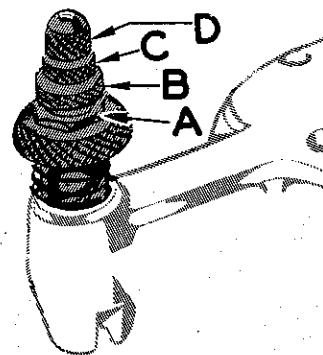

Fig. 2
Sufficient pressure to feed work uniformly should be maintained. Should it be necessary to increase or decrease amount of pressure on presser foot, loosen lock nut (A, Fig. 2) and turn adjusting screw (B). Adjusting screw has a right hand thread so tightening increases pressure, loosening decreases pressure. When pressure adjusting screw (B) has been properly set, tighten lock nut (A). With presser foot resting on throat plate, position locking nut (C) so that its under surface is approximately 1/32 inch to 1/16 inch from the top surface of adjusting screw (B). Set cap (D) against locking nut (C).